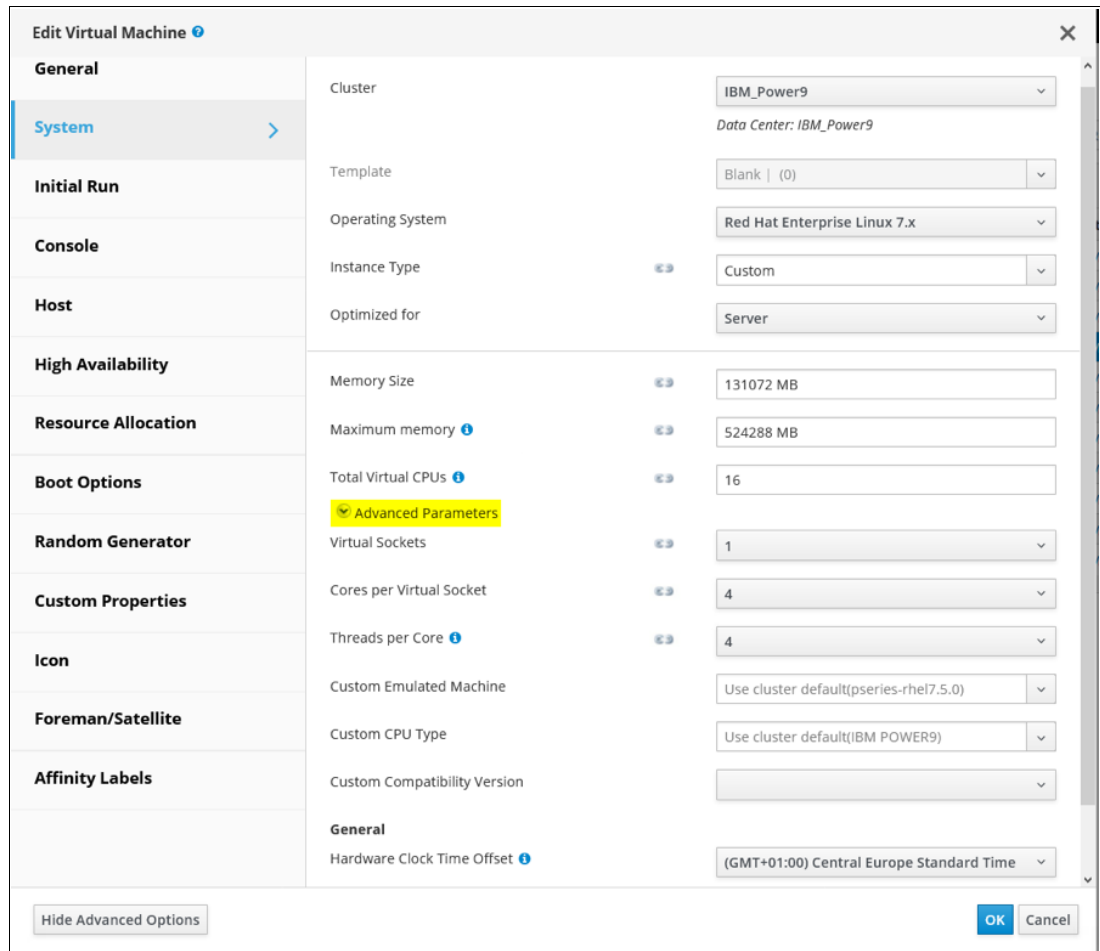

Figure 4-39 Edit Virtual Machine window: System
4. Complete the fields in the System menu, as shown in Figure 4-39.